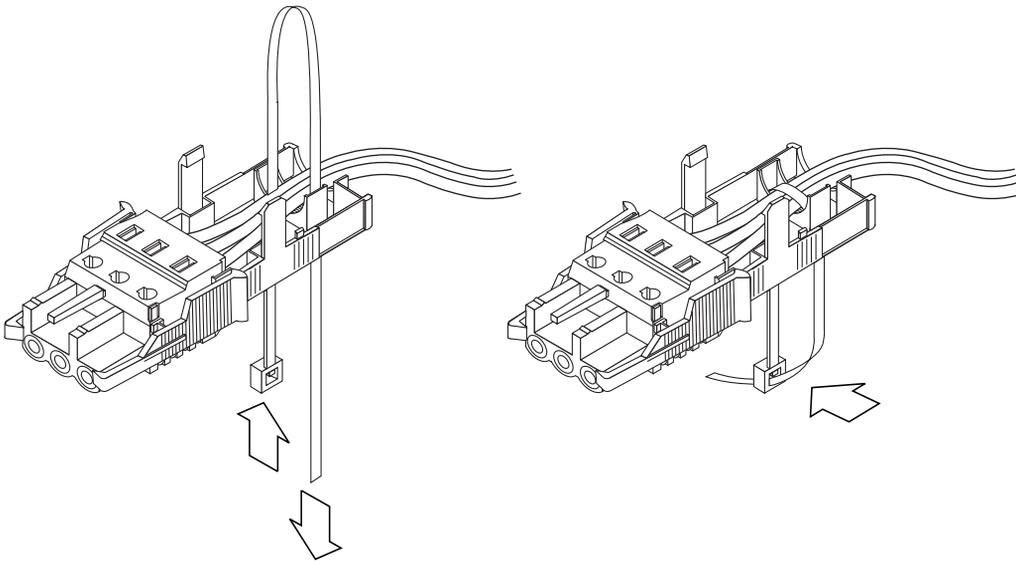

FIGURE 2-11 Securing the Wires to the Strain Relief Housing
- 3. Insert the tie wrap into the bottom portion of the strain relief housing as shown in FIGURE 2-11.**